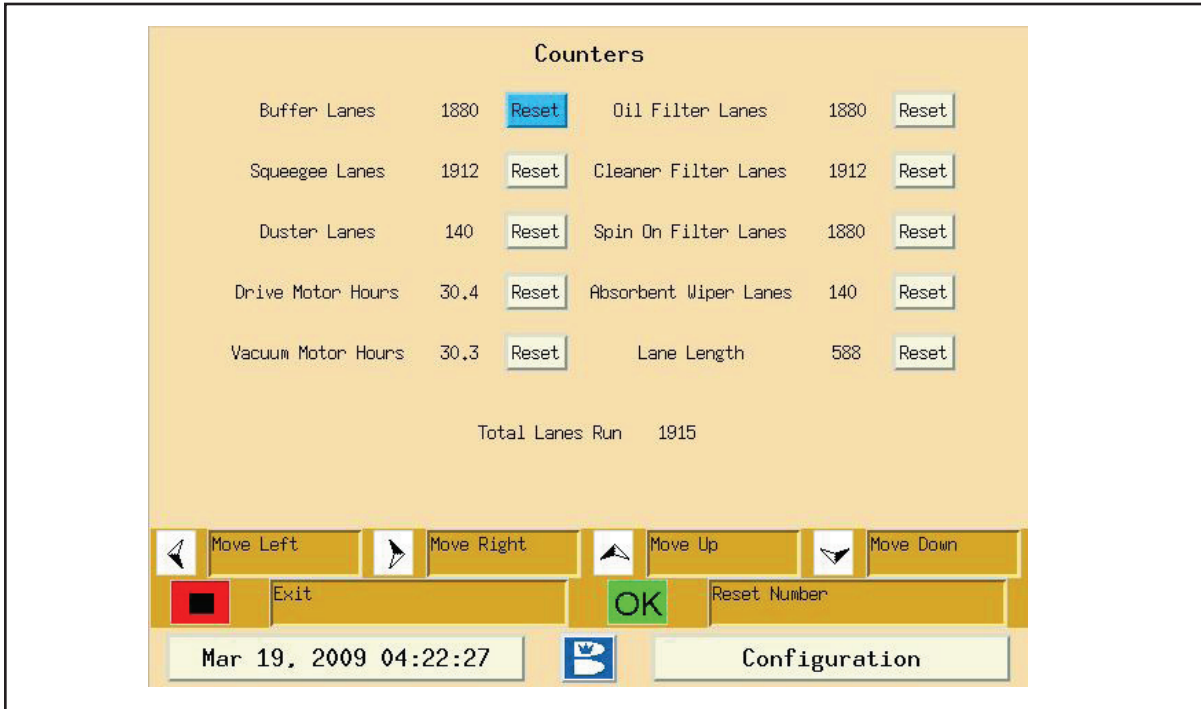

Figure 5-25. Maintenance Counters
1. Go to the Maintenance menu. Refer to Figure 5-25.